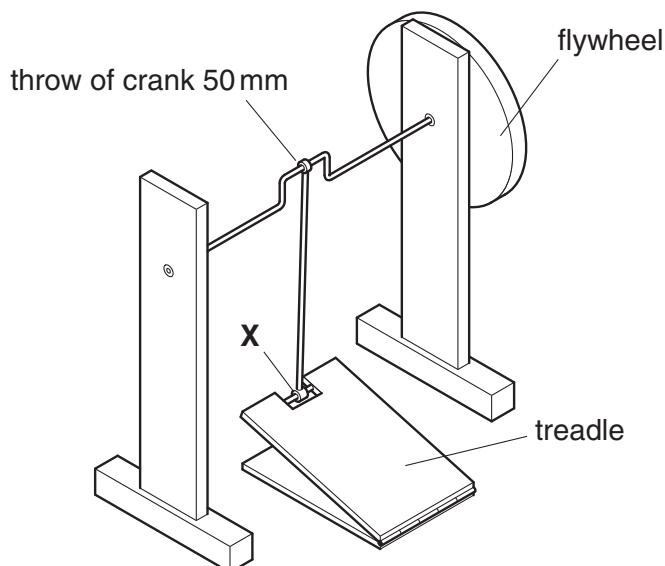

Fig. 8
- 4 (a) Fig. 8 shows part of a treadle mechanism.